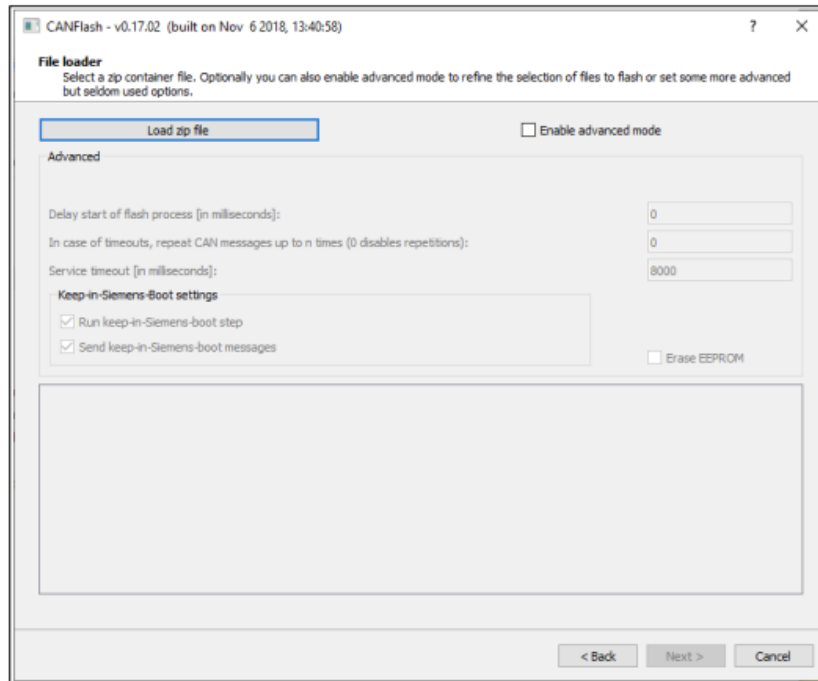

Figure 8: Load zip file in CANFlash
27. Click **Load zip file**. Select **SS100214_Official Release Bootloader 5.11.zip** (see figure 8). Ensure the knob on top of 1144289 is set to inverter ID 3. Click **Next** when complete.